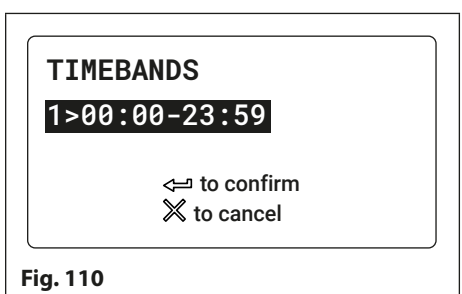

Fig. 110
- 1 - ☒ When set in this mode and the panel's onboard relay is activated the display will show that the gate is open (refer to **Fig.110** on pages 60 - 61). The speech annunciation (if the speechboard is switched ON) will announce "the gate is open".
To enter a time period for one of the programmable timebands press the relevant button to make the selection. The display will access the 2nd timeband screen and the current time period will be highlighted on the second line of the display (refer to **Fig.110**).